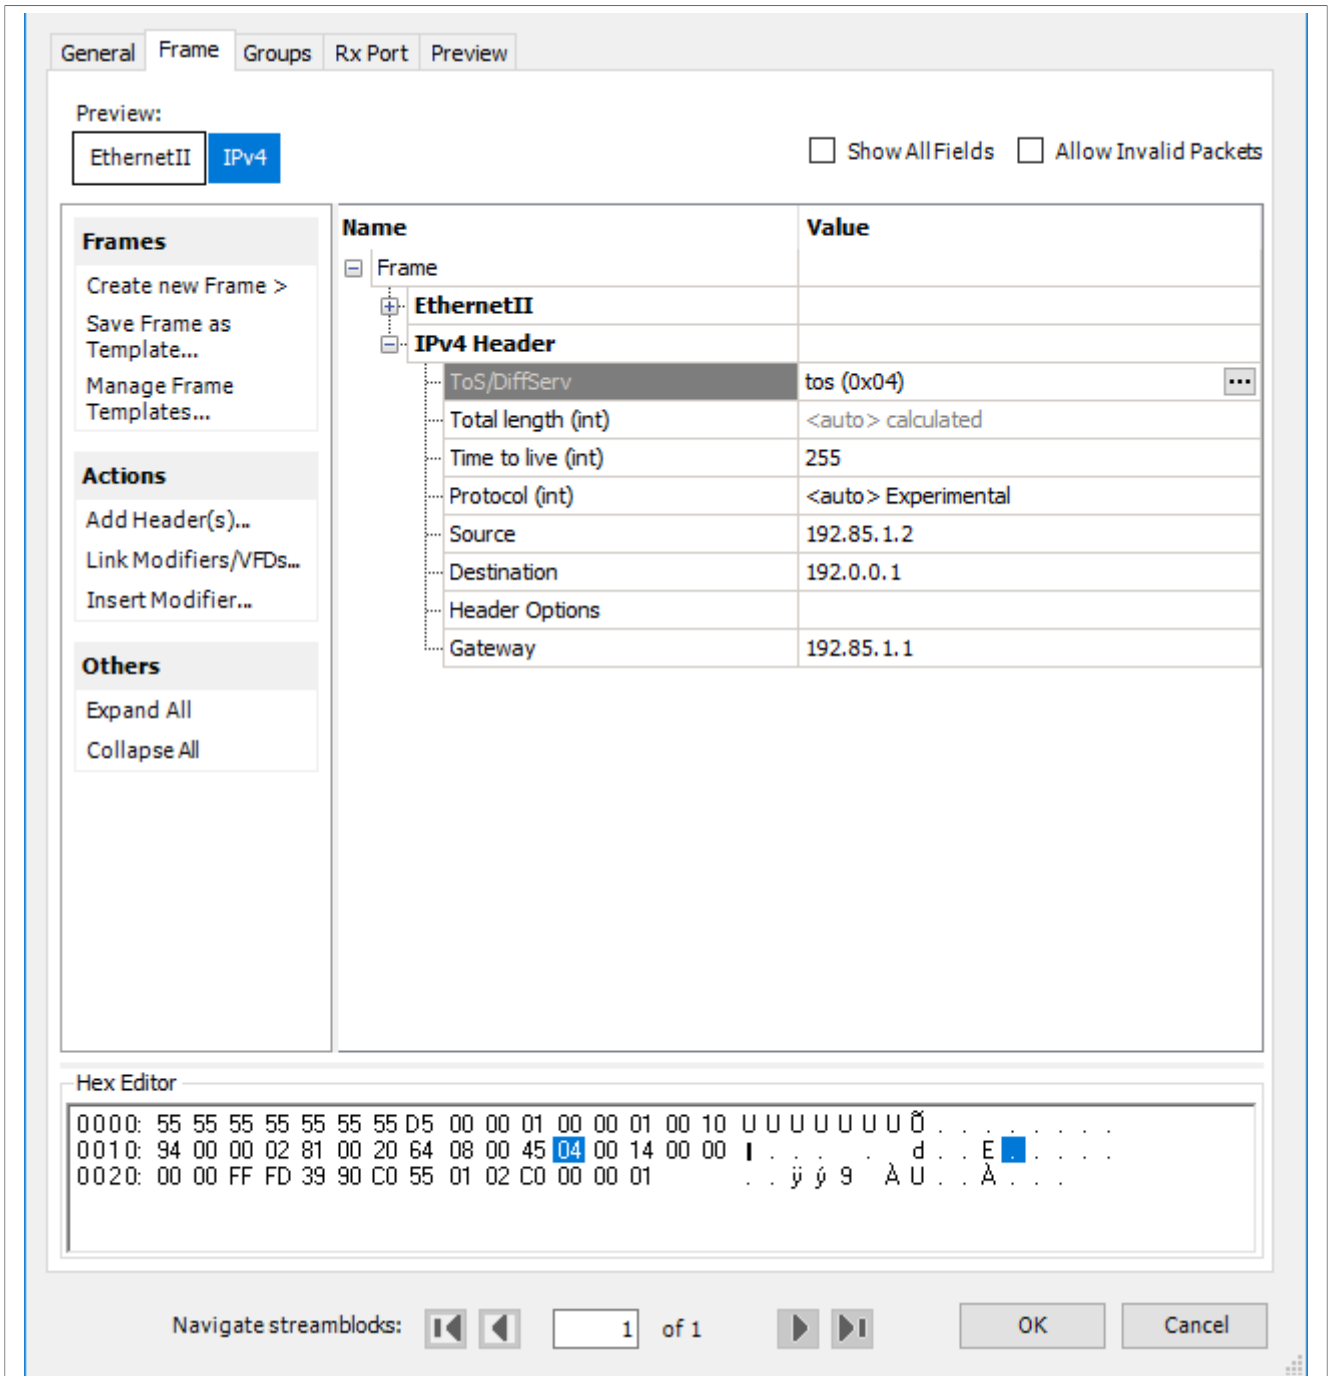

Figure 64. Setting DSCP value on TestCenter
2. Set the DSCP value on TestCenter. DSCP value is the upper six bits of ToS in IP header, set the DSCP value on TestCenter as shown in Figure 64.